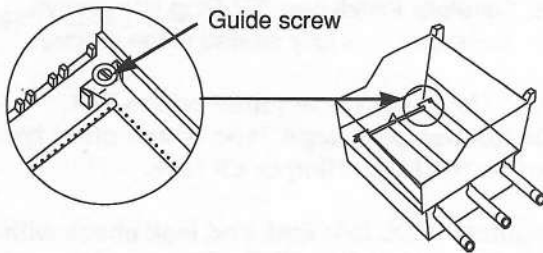

Figure 14
- f) Slide the burner assembly out from under the guide screw and washer in the corners of the cooking box. Figure 14.